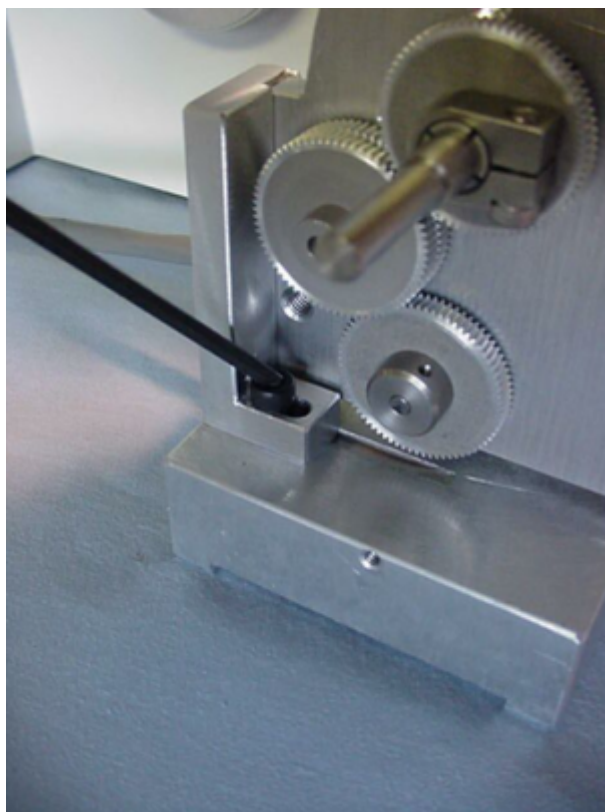

Figure 3. The Horizontal Adjustment Screw
a) Locate the base plate, the motor drive, adjustment bar, and the Allen wrenches. Use the 3mm Allen wrench to remove the drive assembly from the base plate by removing the horizontal adjustment screw as shown in figure 3.
d) Once the drive has been installed it should be attached to the base plate. The base plate that was installed in step b. may have to be repositioned slightly so that the adjustment bar will slide into the groove. Position the base plate so that the horizontal adjustment screw is about centered in the groove and screw in the horizontal adjustment screw as shown in figure 3. Do not tighten the screw, only screw it in enough to hold the drive to the baseplate. Leave both the horizontal and vertical adjustment screws loose enough so that the drive can slide up and down and the adjustment bar can slide back and forth within the baseplate.